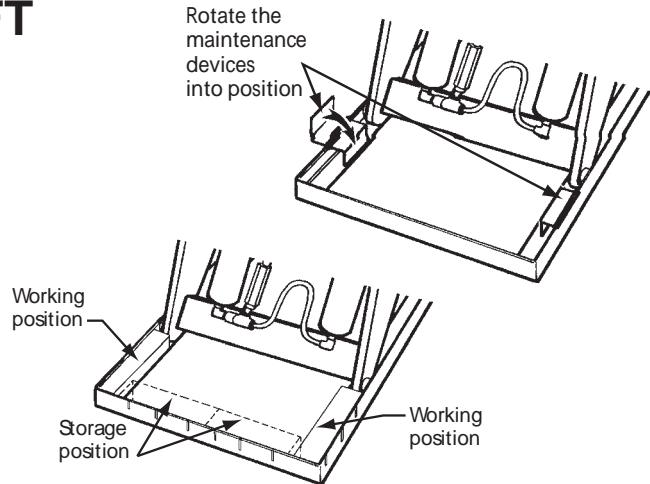

Figure 1 – Safe Servicing of Lift
3. Remove the maintenance device(s) from its/their storage location and place it/them into the engaged position as shown in Figure 1. (Note: further information may be useful here to provide additional instructions as to the location and method of storage and engaged positions).
12. Raise the lift and insert the maintenance devices, as shown in Figure 1.
When adjusting the flow control, always raise the lift table and insert the maintenance devices, as shown in Figure 1. Do not try to adjust the flow control while pressing the “down” button. If you try this, the lift table may drop suddenly, and you may be hurt.
- **Raise the lift table and insert the maintenance devices**, as shown in Figure 1.